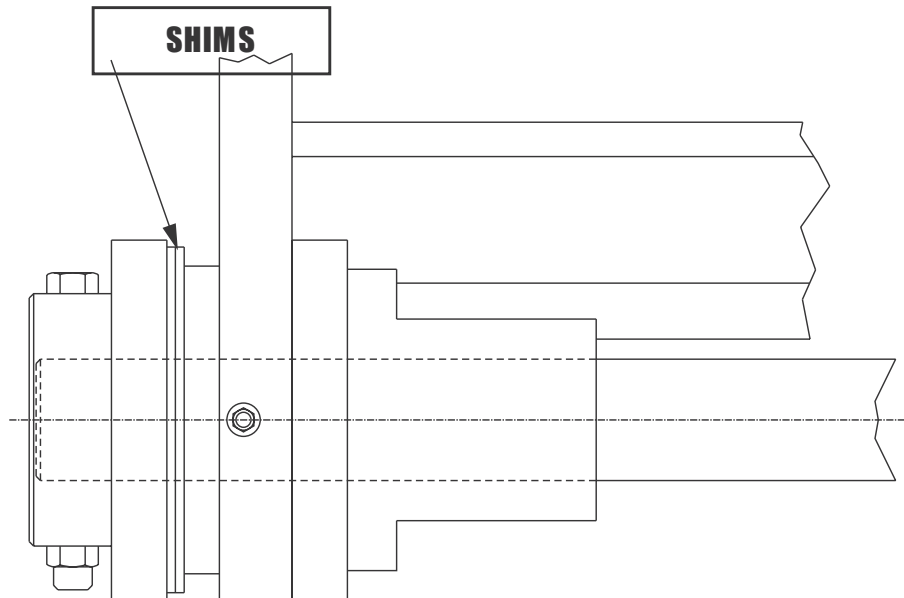

FIGURE 3-2
4. Place two shims between the upper moveable jaw and lower fixed jaw to limit the total end play between the grapple halves from 1/8 inch (3.175 mm) to 3/16 inch (4.762 mm) then proceed to drive the metal stickpin sleeve assembly through the shims and outer bore of the fixed jaw. Refer to figure 3-2.